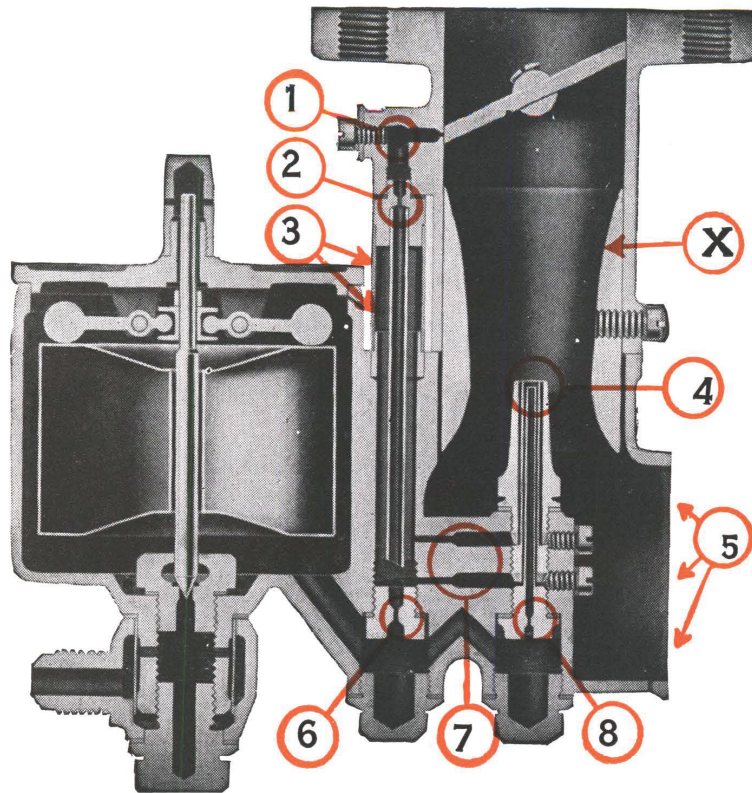

Fig. 4. Sectional view of the Zenith model "U" carburetor.
1. The **choke tube (X)** (Fig. 4)—This measures the amount of air taken into the engine. The flow of air increases as the engine speed increases.
2. The **main jet (8)** (Fig. 4)—This acts exactly like the jet in the simple carburetor. It varies in flow with the suction.
3. The **compensating jet (6)** (Fig. 4)—The flow from this jet is constant regardless of the amount of suction, or the speed of the engine.
4. The **idling jet (2)** (Fig. 4)—This operates only when the throttle is barely cracked open. Further opening of the throttle automatically puts the idling device out of operation because the fuel in the well is then all drawn through the cap jet (4) (Fig. 4).
The illustration, Fig. 4, shows a sectional view of the model "U" Zenith carburetor.
Number 5 designates the main air intake of the carburetor. The amount of air necessary to meet the demands of the engine is measured through the choke tube (X) (see Fig. 4).
When the engine is idling the well is about half full of fuel. This provides a reserve for acceleration as, when the throttle is open, this fuel rushes through passages (7) Fig. 4, to balance the air passing by the compound nozzle.
Fig. 11. Main jet (size stamped on base). This is the long jet (8) Fig. 4, page 1294. It is directly connected with the float chamber and will vary in amount of fuel flowed with the speed of the engine. Its effect is most noticeable at high speed.
Fig. 13. Cap jet. This is not a measuring jet and bears no mark and is made in one size only. The fuel measured through the comp. jet goes through channel hole (7) (Fig. 4) and out of cap jet into carburetor barrel (the barrel is that part which holds the choke tube and throttle valve).
Fig. 14. Idling jet (size stamped on nut at top). This is the jet (2) (Fig. 4) and its sole function is to supply fuel for closed throttle operation. Immediately the throttle is opened it is put out of action as the fuel goes into carburetor through cap jet.